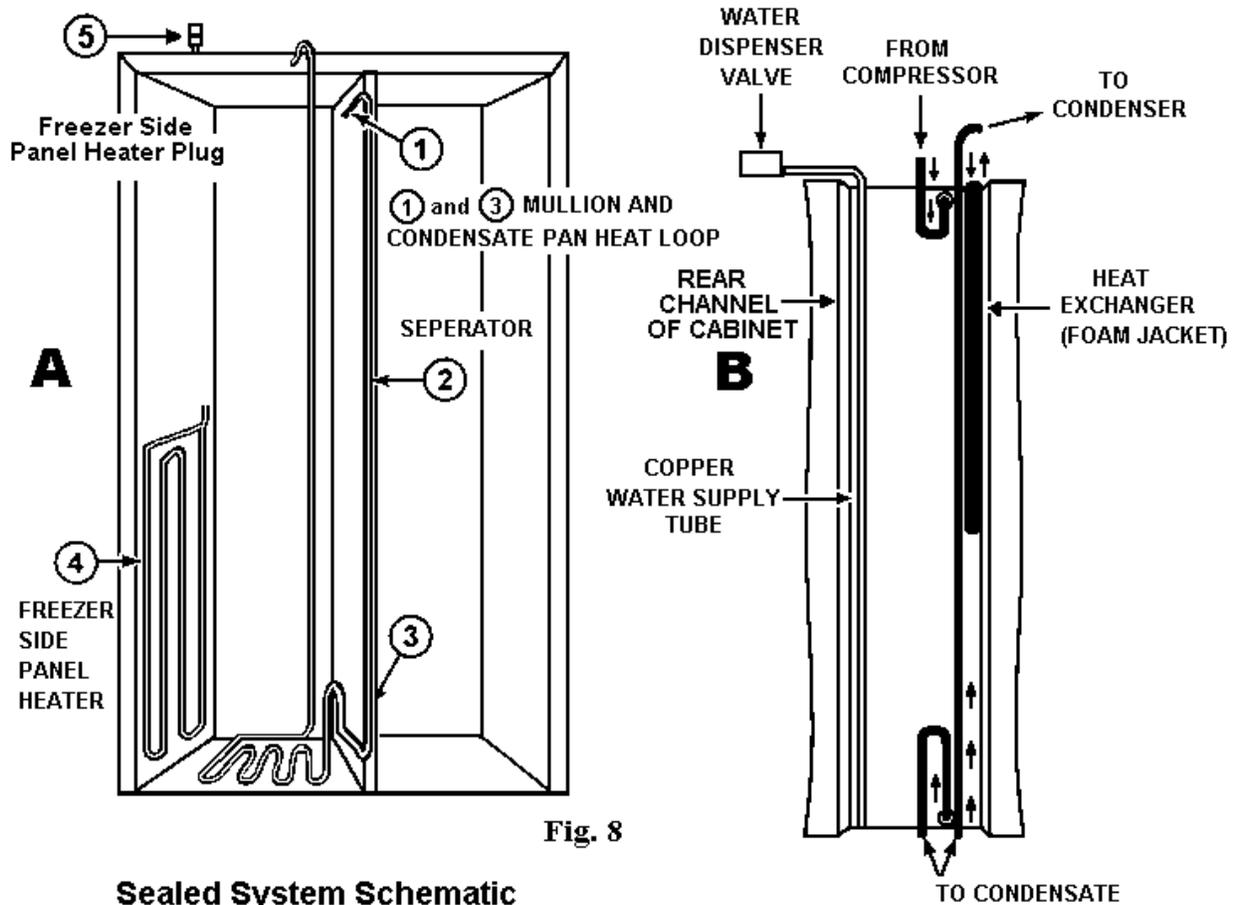

Fig. 8
The mullion and condensate pan heat loop (Fig.8 A) enters the separator wall through a grommet in the back of the cabinet (Fig.8 B) where it travels inside the separator wall to the front. It then bends 90° (1) and travels along the entire length of the separator (2) to the bottom of the cabinet. Finally, the loop bends 90° (3) and travels along the bottom of the separator and exits through a grommet at the back of the cabinet.